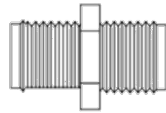
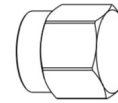

Figure 2 - RP-SMA Female to RP-SMA Female Connector
Figure 3 - 50 Ohm RP-SMA Male Terminator
3. Attach the RP-SMA Adapter (Figure 2) to one end of the cable and then attach the 50 Ohm terminator (Figure 3) to the RP-SMA Adapter. (This is the end that will attach to the antenna.)